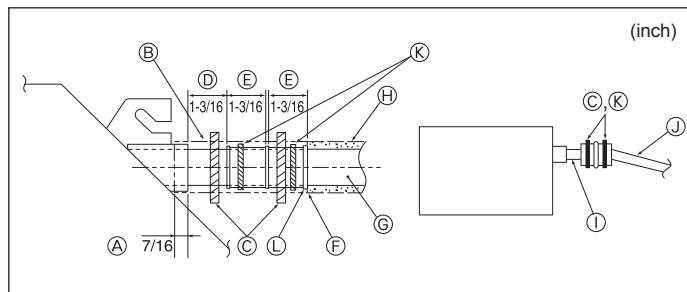

Fig. 4-6
1. Connect the drain socket (supplied with the unit) to the drain port. (Fig. 4-6)